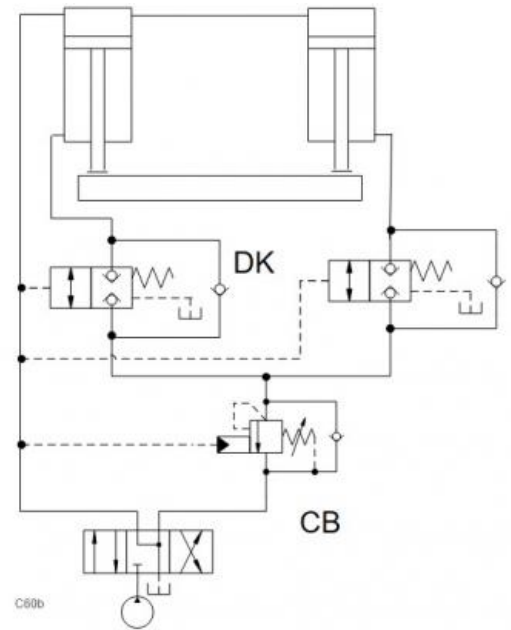

Fig.2
- In **Fig.2** with high load-induced pressures and a rigid frame the vented P.O. check valves are replaced with vented CBVs or balanced logic elements.